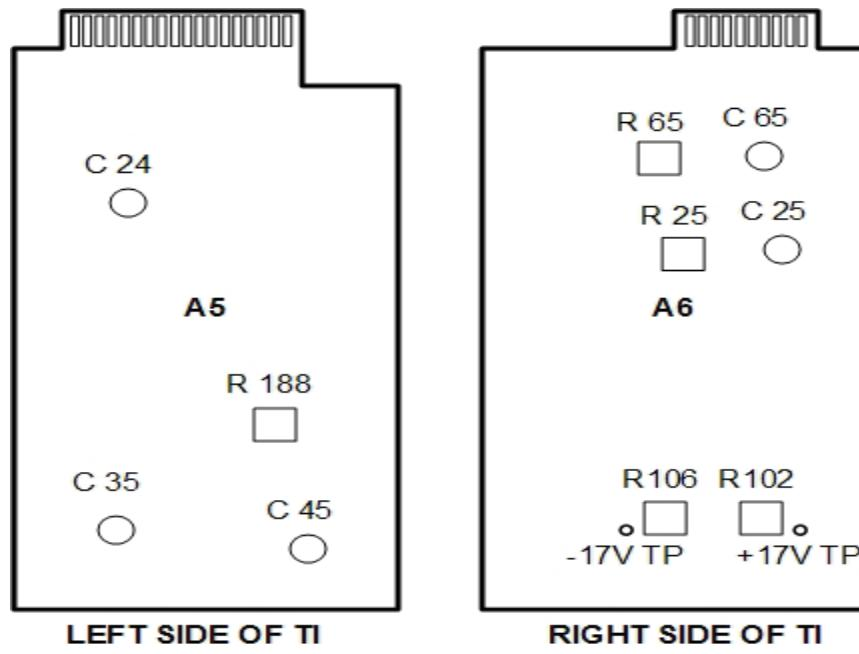

Figure 1. Boards A5 and A6 - adjustment locations.
**b. Adjustments.** Adjust A5C24 (fig. 1) for an indication of 51.5 MHz on frequency counter (R).
**b. Adjustments.** Adjust A5C35 (fig. 1) for a pulse delay of 1.2  $\mu\text{s}$  (R).
**b. Adjustments.** Adjust A5C45 (fig. 1) for a pulse width of 1.3  $\mu$ s. (R).
(1) Adjust A6C25 and A6R25 (fig. 1) until preshoot, overshoot, and ringing is less than 5 percent of pulse amplitude (R).
(2) Adjust A6C65 and A6R65 (fig. 1) until preshoot, overshoot, and ringing is less than 5 percent of pulse amplitude (R).
(1) Adjust **PULSE PERIOD VERNIER** control for a display of one complete pulse on oscilloscope.
(2) Set **PULSE DOUBLE/NORM** switch to **DOUBLE**.
(3) Adjust **PULSE DELAY VERNIER** control to produce two pulses spaced at least 20 ns between leading edges. If width of each pulse is not the same, perform **b** below.
**b. Adjustments.** Adjust A5R188 (fig. 1) until width of first pulse is same as second pulse (R).
(1) Connect multimeter between +17 V TP (fig. 1) and ground. If multimeter does not indicate between 16.9 and 17.1 V dc, perform **b** (1) below.
(2) Connect multimeter between -17 TP (fig. 1) and ground. If multimeter does not indicate between -16.9 and -17.1 V dc, perform **b** (2) below.
(1) Adjust A6R102 (fig. 1) for a 17.00 V dc indication on multimeter (R).
(2) Adjust A6R106 (fig. 1) for a -17.00 V dc indication on multimeter (R).